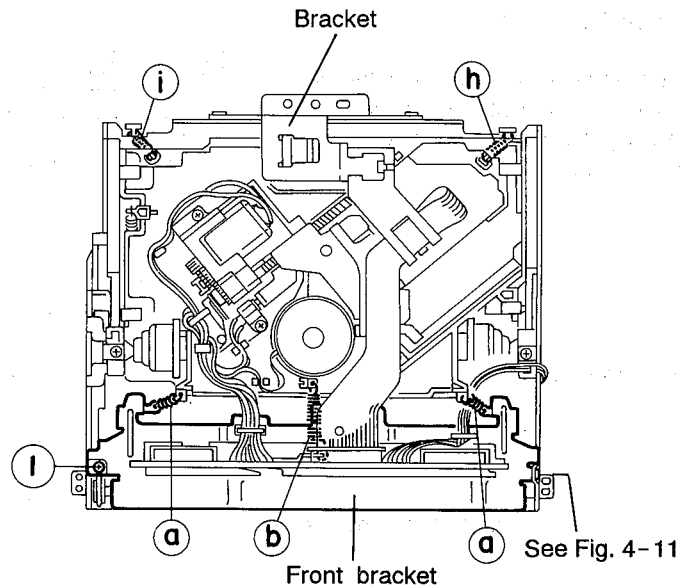
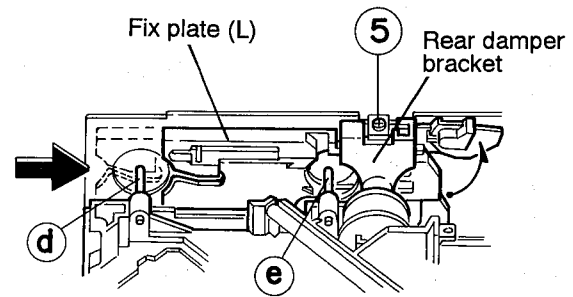

Fig. 4-10
Fig. 4-17
5. Remove the three springs ③ and ⑥ from behind the CD mechanism assembly (See Fig. 4-10).
7. Remove the two screws ① retaining the front bracket for fixing the CD mechanism control P. C. board (See Fig. 4-10).
2. While shifting the fix plates on the right and left sides respectively to the arrow direction, lower the entire CD mechanism. When the shafts (㉠, ㉡, ㉢ and ㉣) on both the right and left sides have been set free as shown in Figs. 4-17 and 4-18, then the assembly can be removed easily. Remove the two screws ⑤ retaining the rear damper bracket to make it easier to remove the damper from the rear damper bracket (See Figs. 4-10, 4-17 and 4-18).
3. Remove the two springs ㉠ and ㉡ as shown in Fig. 4-10, 16.